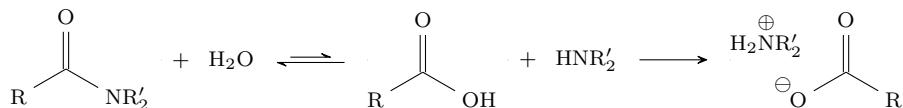

Figure 4.37: Acyl transfer: Amide hydrolysis.
- Under basic conditions, we can't form the salt in Figure 4.37, but we are still thermodynamically driven toward the more stable carboxylate (see Figure 4.20).
- 5. Amide hydrolysis (Figure 4.37).